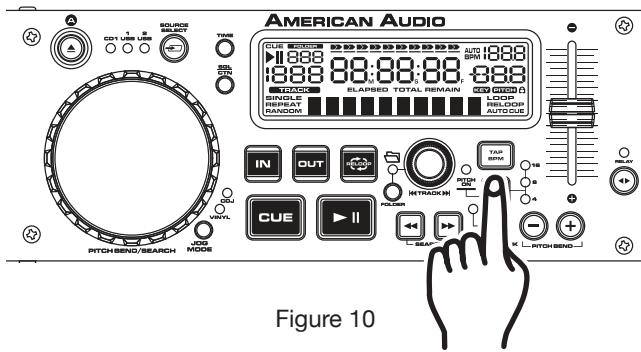

Figure 10
**Using the Pitch Slider Percentage Selector (8):** You may choose a pitch operating range at any time. To change the operating range be sure the pitch function is turned on, see figure 10. The pitch percentage can be changed between +/-4%, +/-8%, +/-16%, and 100%. 4% will allow the least amount of pitch manipulation and 100% will allow the most amount of pitch manipulation. To adjust the different values, press the *PITCH ON/OFF BUTTON* (8) and Tap on the *% BUTTON* (8) until your desired value is reached. The LED of the *% BUTTON* (8); glowing red for 4%, glowing yellow for 8%, or glowing amber for 16%, and all LEDs glowing for 100%.
**Activating the Pitch Slider (5):** To activate the PITCH SLIDER (5), turn the pitch function on. Press the PITCH BUTTON (8) to turn on the pitch function, when the pitch function is activated a LED will begin to glow. If the pitch function is not activated the PITCH SLIDER (5) will not function.